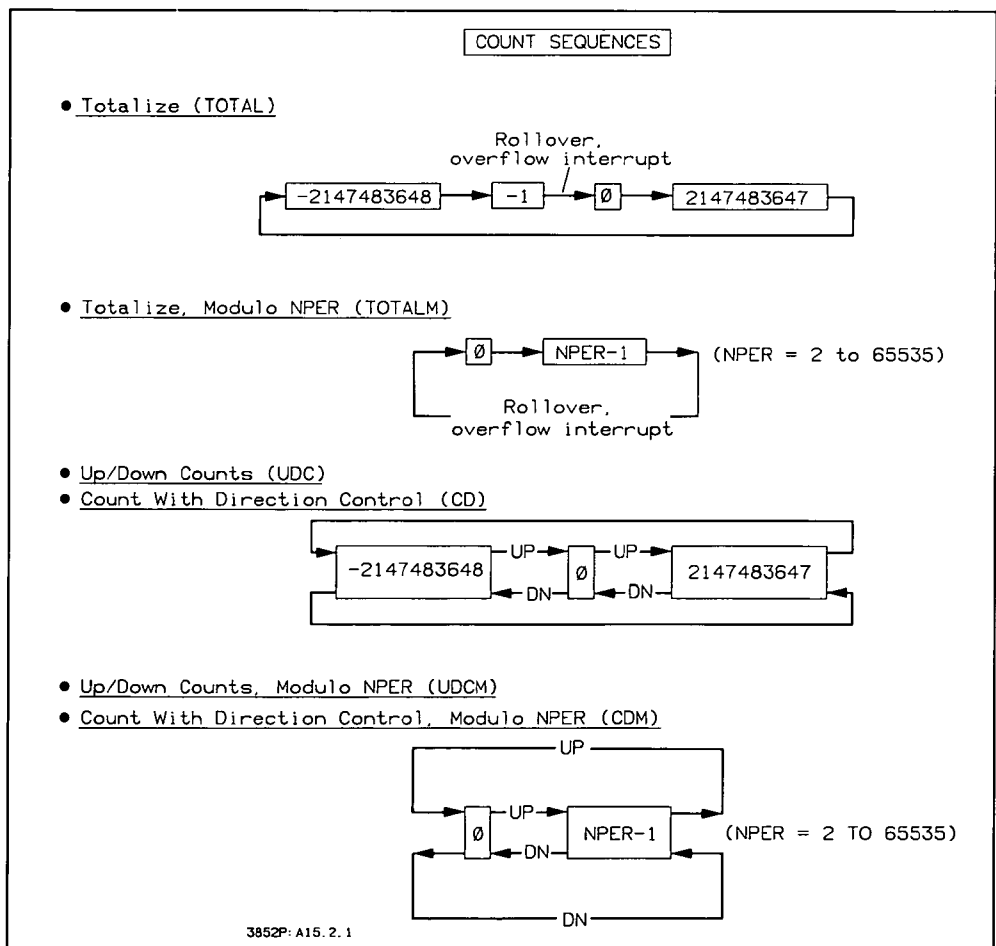
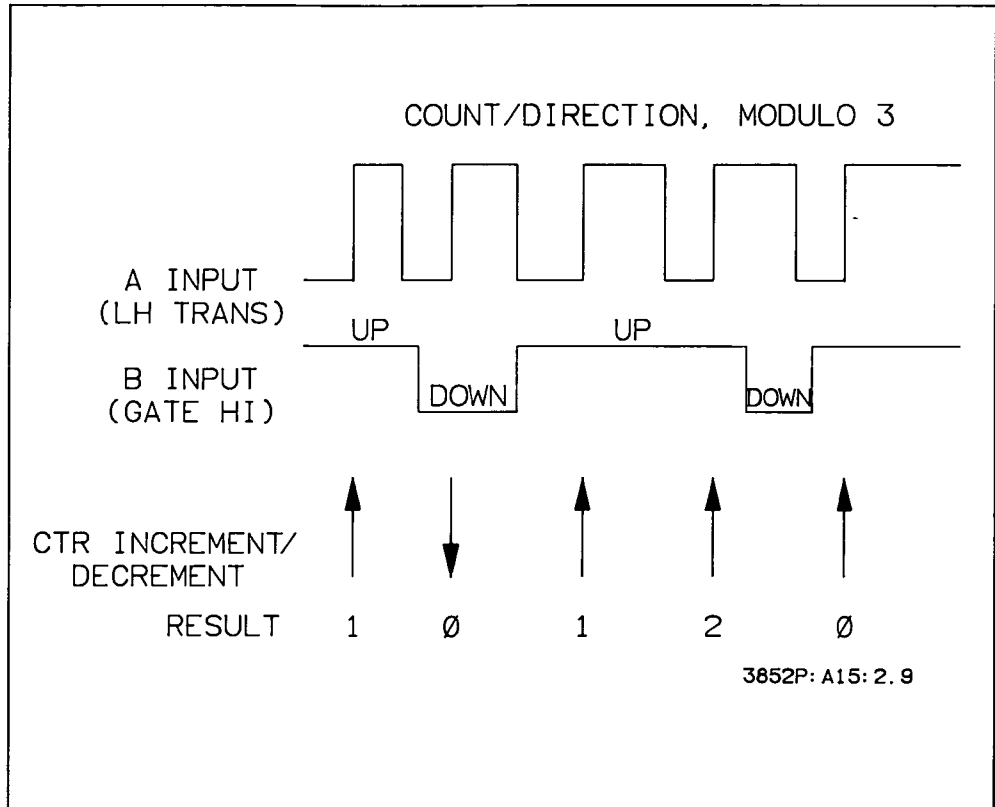
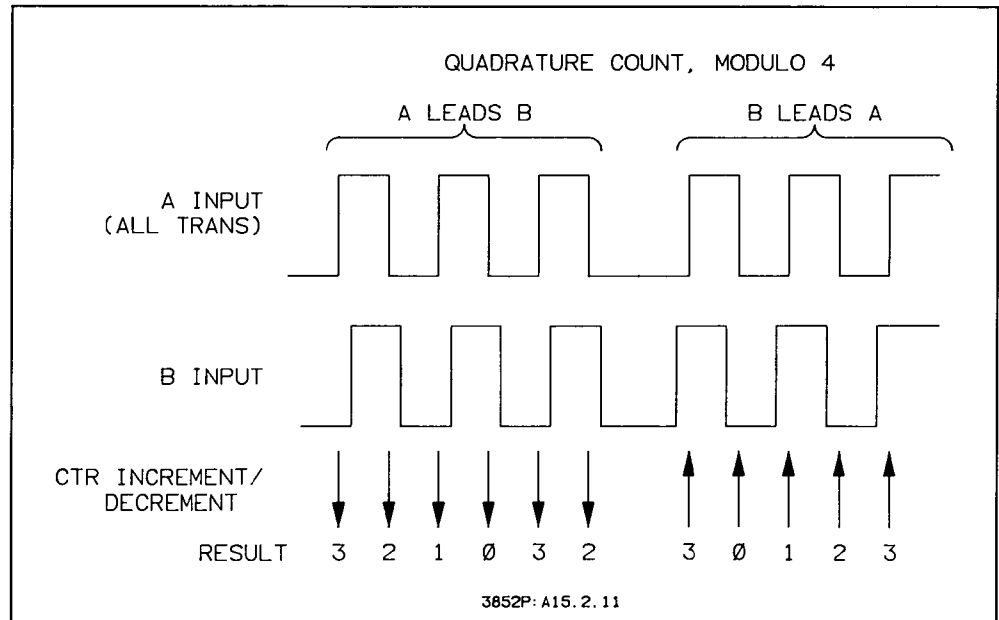

Figure 2-1. Counting Sequences
Figure 2-9. Example: Count/Direction, Modulo NPER (CDM)
Figure 2-11. Example: Quadrature Count, Modulo NPER (CDM)
As noted, the counter has two types of functions: counting and measuring. The counting functions (Totalize Counts, Up/Down Counts, and Count With Direction Control) continuously repeat the count sequence, while the measurement functions perform a one-time measurement. Figure 2-1 summarizes the count sequence for the counting functions.
The count sequence starts at 0. For up counts, the count sequence is from 0 to NPER-1 and back to 0. For down counts, the count sequence is from 0 to NPER-1 to 0 and back up to NPER-1 (see Figure 2-1). Measurement accuracy is  $\pm 1$  count + #reversals/2. Figure 2-9 shows an example sequence with NPER 3 in which LH transitions of the A input are up counts when the B input is high and down counts when the B input is low (B input level is set for HI).
Quadrature Count, Modulo NPER (CDM) is similar to Quadrature Count (CD) except that the count sequence is from 0 to NPER-1 (NPER = 2 to 65535) and back to 0 (see Figure 2-1). Figure 2-11 shows an example of Quadrature Count, Modulo NPER with NPER 4.